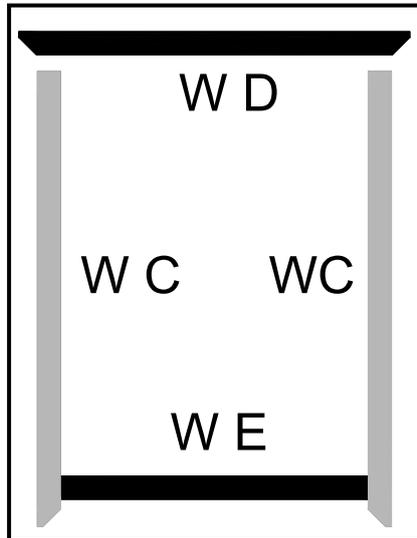

Fig A2
7. Layout parts **WC** ,**WD** & **WE** as in fig A2 & drawing on top of the frame from steps 1-6 flush with the inner edge of the frame .